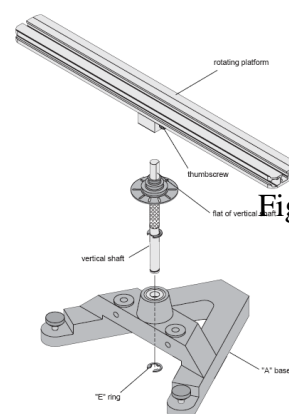

Figure 2-1
1. As shown in figure 2-1. Purposely make the apparatus unbalanced by attaching the 300 g square mass onto either end of the aluminum track. Tighten the screw so the mass will not slide.